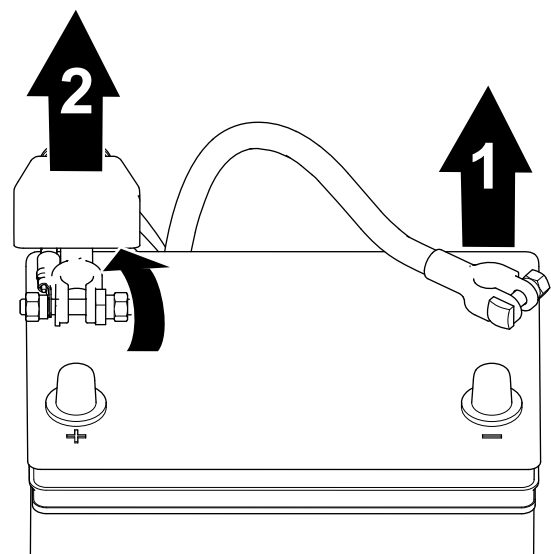

Figure 89
1. Remove the negative battery cable from the battery post (Figure 89).
2. Lift the insulator and remove the positive battery cable from the battery post (Figure 89).